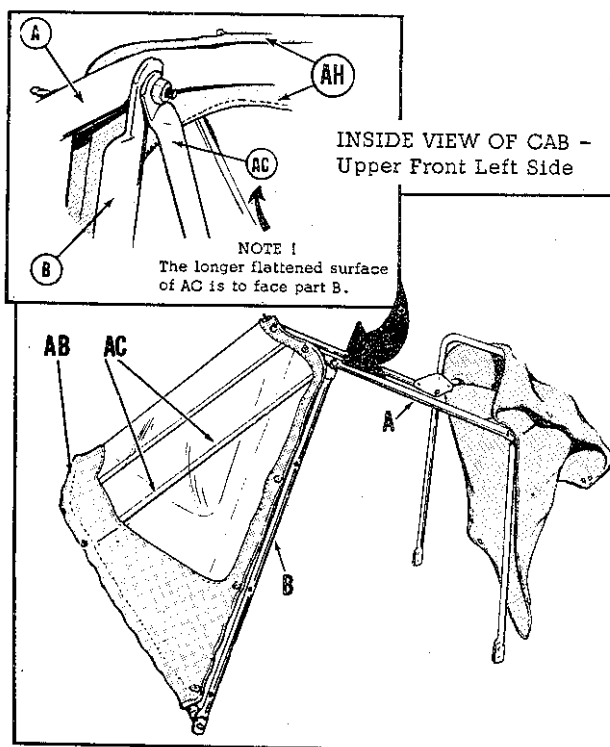

Figure 3
5. Attach the Side Braces (B) and the upper ends of Front Braces (AC) to the Top Front Frame (A) using 1/4-20 x 1-3/4 hex capscrews. The flat side of side brace (B) is placed to the inside of the cab, and the fastener studs face the outside of the cab and the stud nearest the end of the brace is at the bottom. Refer to Figure 3.